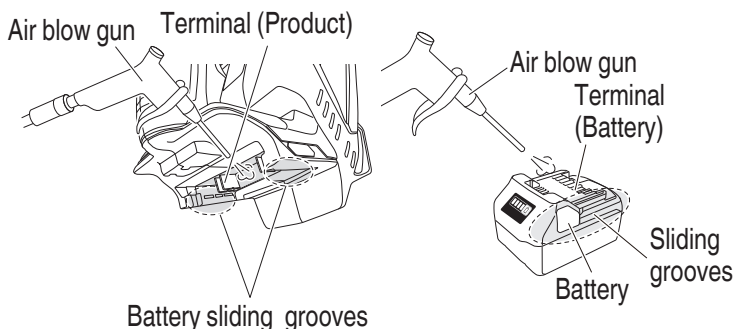

Fig. 48
9. Cleaning the battery installation compartment and the battery (**Fig. 48**)